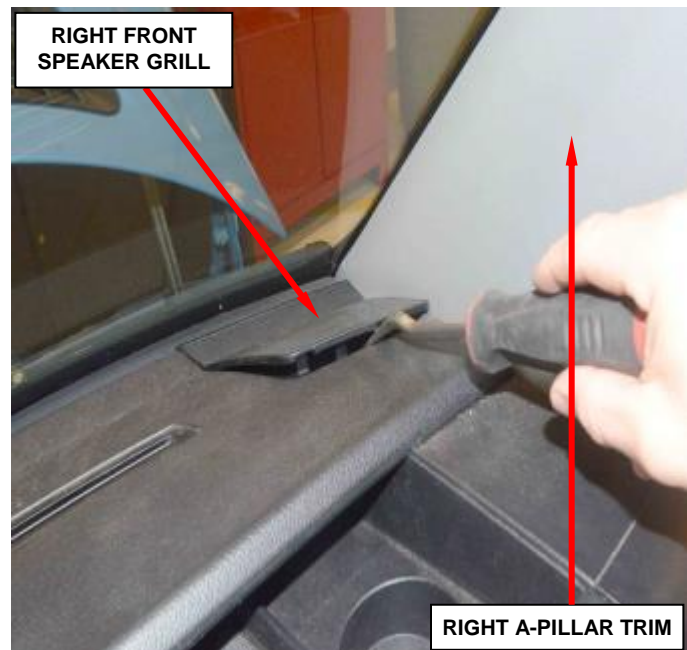

Figure 187 – Right Front Speaker Grill
7. Remove the right front speaker grill (Figure 187).
8. Partially remove the right front door seal near the A-Pillar (Figure 187).